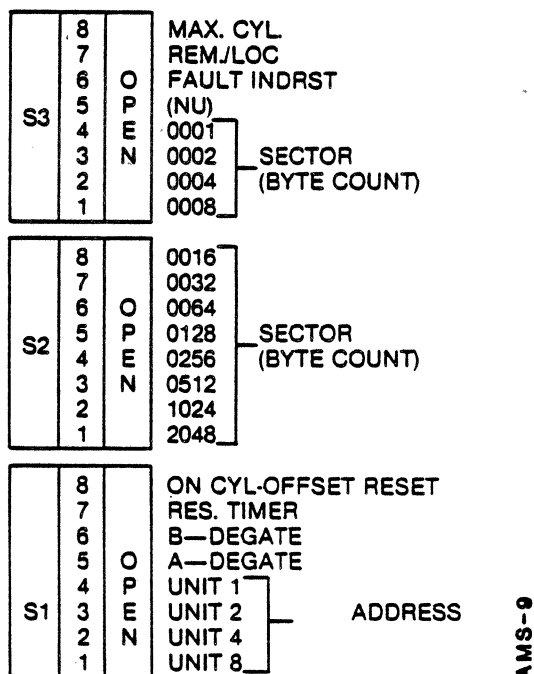

Figure 5-2. Switch Blocks (P/N 26310-001)
- b. Figures 5-2 and 5-3 show the switch blocks located on the P/N 26310-001 I/O and Control PWB.
- c. Each I/O and Control PWB also contains 14 Fault (Maintenance) and Access indicators (LED's) that are shown in Figures 5-2 and 5-3. Refer to Table 5-1 for fault indicator condition and description.